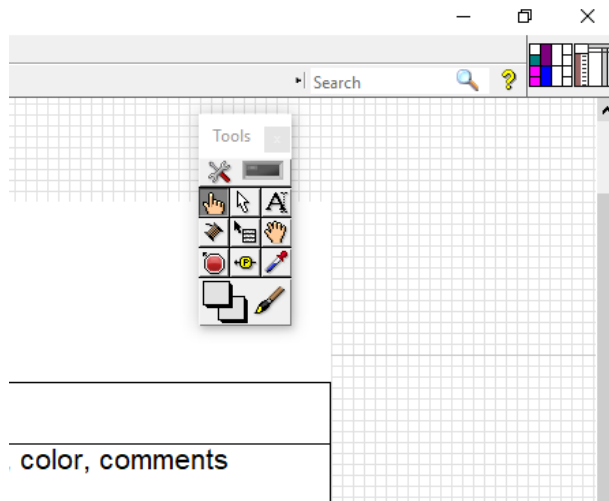

Figure 21. Tools Palette window
2. The Tools Palette window will appear (Figure 21). This allows you to select objects.